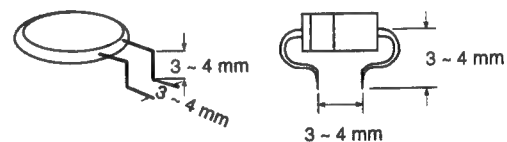

Fig. 10
4. Form leads of the replacement part (general part equivalent to the chip part) as shown in the figures and solder place. (Fig. 10)